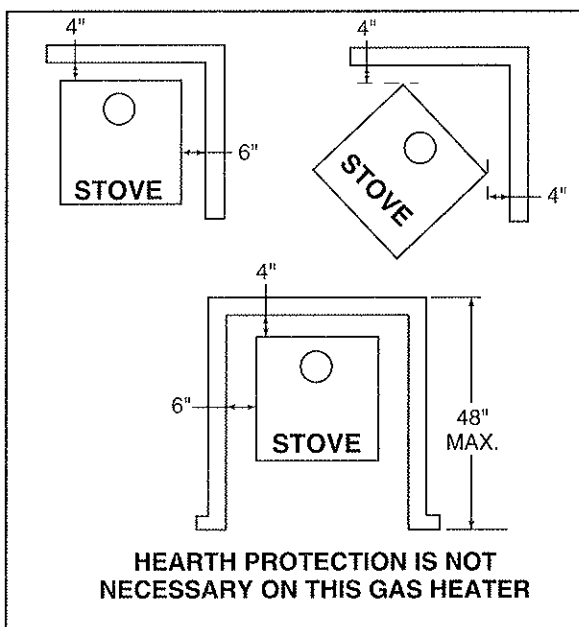

Figure 1
1. Positioning the heater. Position the heater in its desired location. Maintain all clearances found in Figure 1 on page 8.